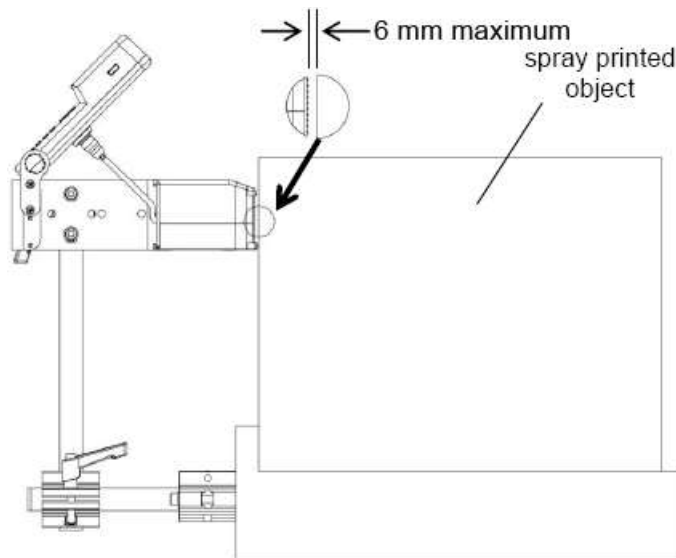

Figure 3-8: Print Distance Adjustment
**Note:** To achieve optimal print quality, position the printhead nozzles to a maximum throw distance of 6 mm from the substrate. (refer Figure 3-8). Prevent any strong wind (like that from a fan) from blowing onto the nozzle.